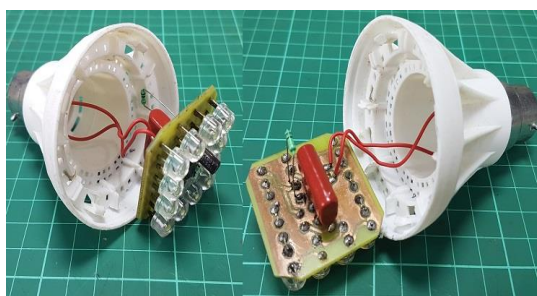

Fig. 2.14: LED bulb connections
Step 10. Mount the PCB board in the LED Housing with all the wires. The complete connections are shown in Figure 2.14.